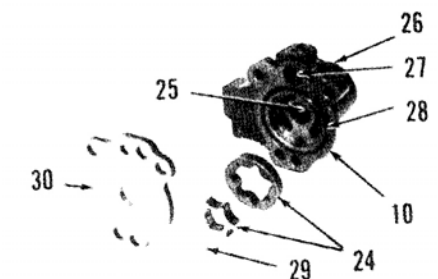

Fig. 62—View showing charge pump assembly.
If clogged, blow lubricant hole (23) clear with compressed air. Inspect polished face of cylinder block (12 and 13—Fig. 59) for scratches and any other damage. Examine internal spring of cylinder block for cracks and broken coils. Inspect valve plates (7 and 8—Fig. 57) for scratches, corrosion, excessive wear and any other damage. Inspect charge pump case (10—Fig. 62) and trochoid rotor assembly (24) for scratches, excessive wear and any other damage. Examine needle bearing (25) for cracked and missing rollers, excessive wear and any other damage.